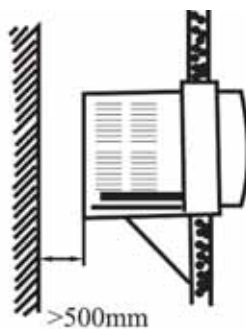

fig.2
2. Block the back hole of the conditioner with rubber lid and install drain elbow to the bottom hole, which can make the condensed water flow out from the bottom plate. (See Fig.2)
4. The back of air-conditioner should be kept over 500mm from the obstacles (for example, wall, etc.) (As illustrated in Fig. 2)